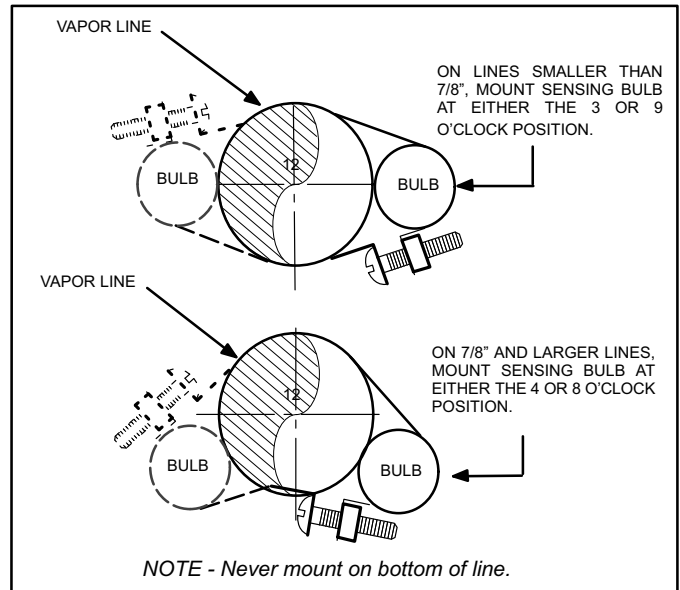

Figure 4. Expansion Valve Sensing Bulb Installation
5. Attach the sensing bulb of the expansion valve in the proper orientation as illustrated in Figure 4 to the vapor line using the clamp and screws provided with the expansion valve kit.